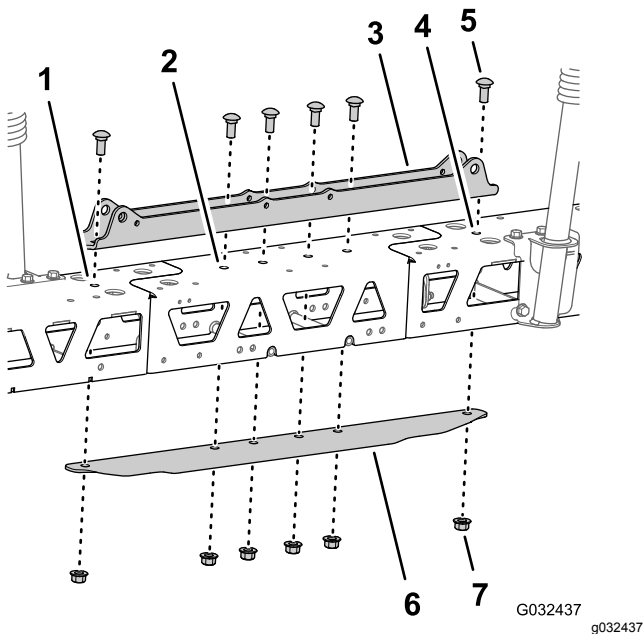

Figure 55
5. Align the holes in the cylinder mount with the holes at the centerline of the truss frame and center-boom extension (Figure 55).
6. Insert the tie plate into the truss frame and center-boom extension and align the hole in the tie plate with the holes at the centerline of the trusses and boom extension (Figure 55).
7. Assemble the cylinder mount, trusses, center-boom extension, and tie plate with the 2 carriage bolt (1/2 x 1-1/4 inches) and 2 flange locknut (1/2 inch) that you removed in step 2 of Separating the Center-Spray Section Trusses (page 27), and the 4 carriage bolt (1/2 x 1-1/4 inches) and 4 flange locknut (1/2 inch) from the GeoLink spray system finishing kit (Figure 55).